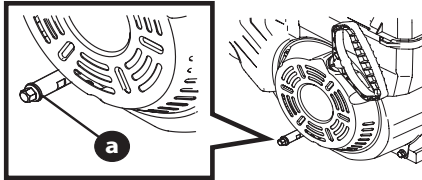

Figure 9
3. Clean area around the oil drain plug (a) (Figure 9).
5. Remove the oil drain plug (Figure 9).